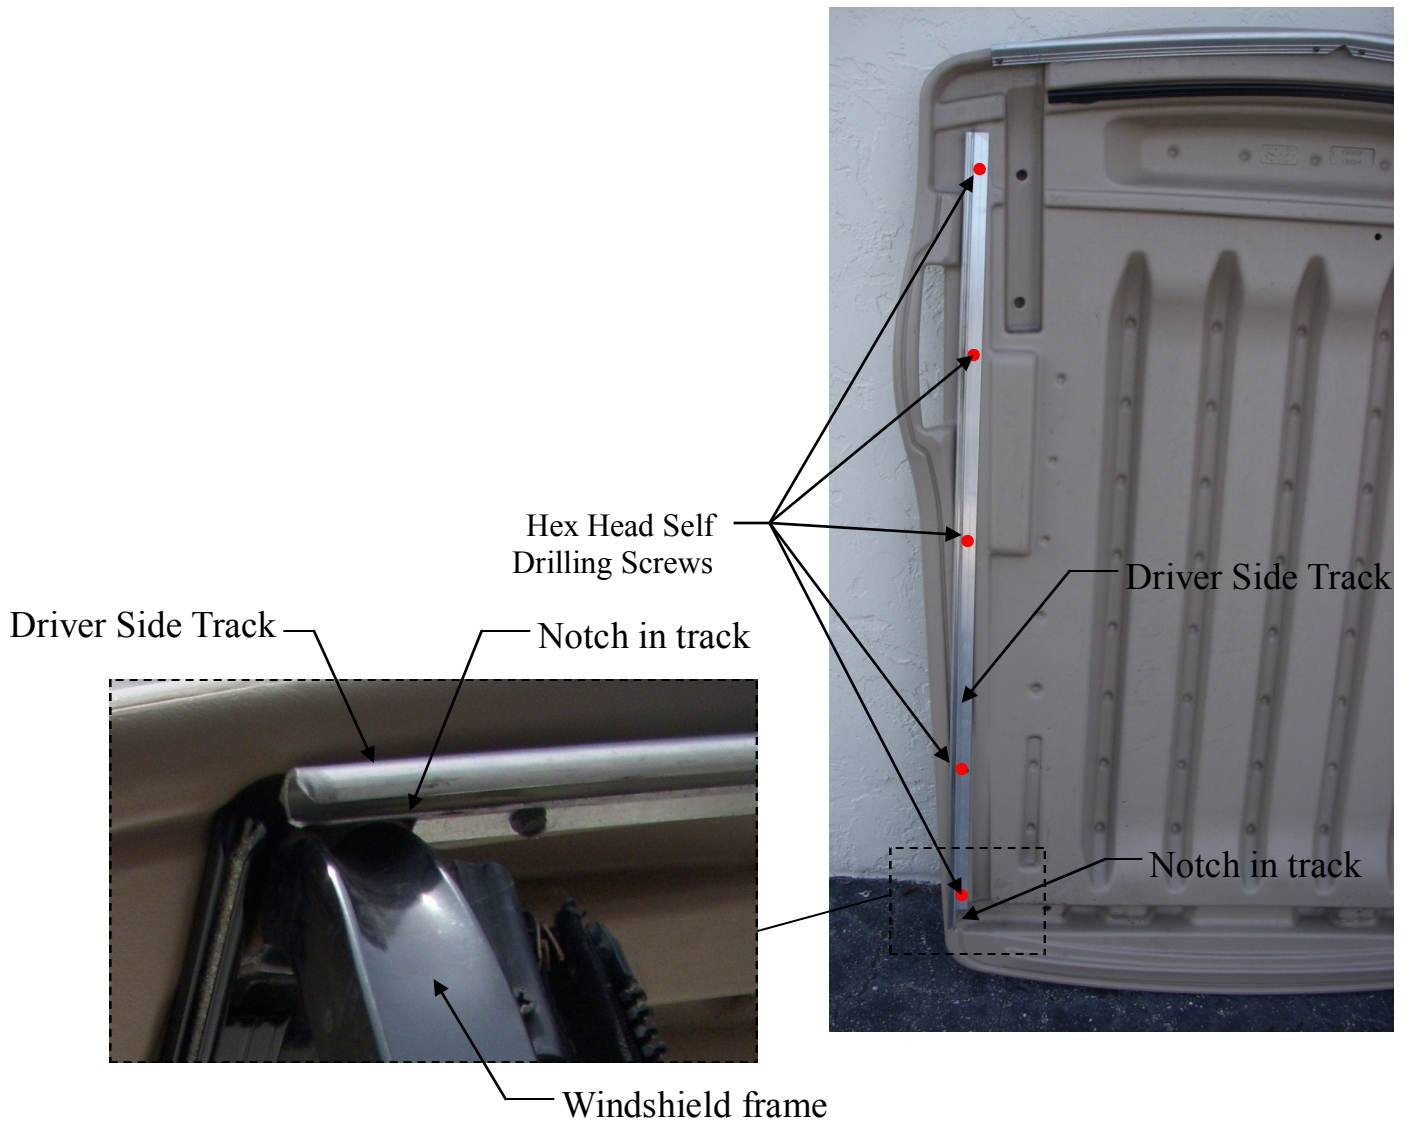

Figure 3-1
1. Begin by installing the driver side track in the location as shown in figure 3-1. When positioned correctly on the roof the notch on the end of the track should wrap around the front windshield frame. Once the track is in the correct position, secure the track to the roof with the supplied hex head self drilling screws in the 5 locations as shown in figure 3-1.